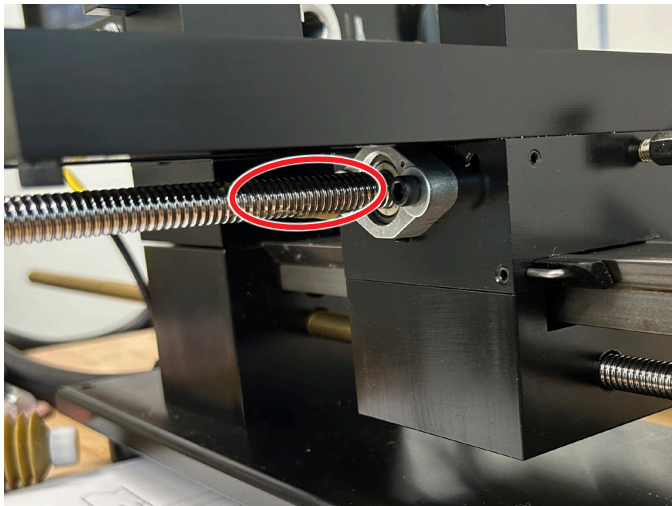

FIGURE 6—Ball Screw Lathe X-axis.
- iii. On both of these machines apply the grease as close to the ball nut as possible and 1"-2" (25 – 50mm) away from the ball nut (see Figure 6).